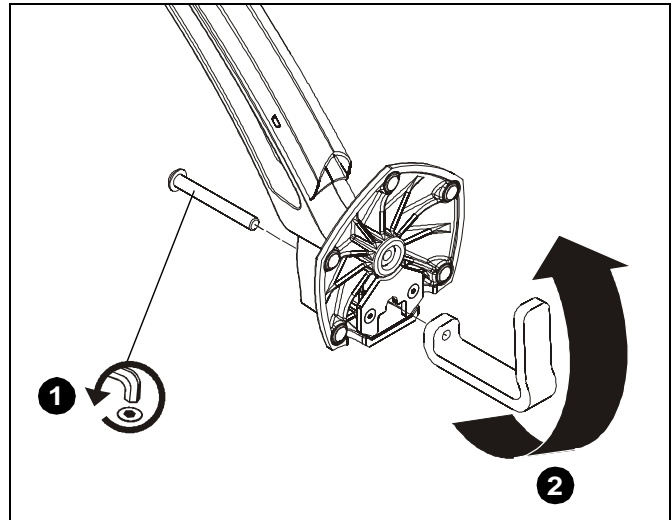

Figure 7
1. Remove desk clamp from mount by loosening button head cap screw until clamp is completely disengaged from the bolt. (See Figure 7)
2. Manuever clamp so that it is totally removed from desk mount. (See Figure 7)